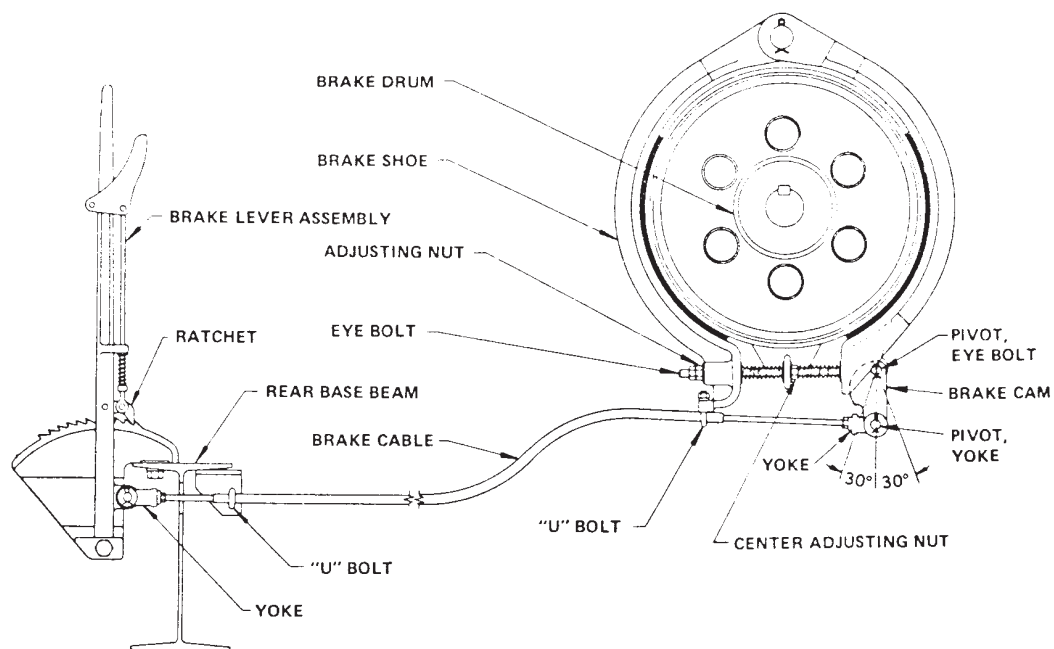

Figure 52
Some smaller and older units in the field may have the shoe type brake (see Figure 52). Before adjusting the brake, refer to Section 1.3 of this manual for proper safety precautions.
- (1) Stop the unit with the long end of the crank in the 6 o'clock position. Lockout/tagout all energy sources. Clamp the polished rod at the stuffing box.
- (2) Position the brake lever in its forward (or disengaged) position.
- (3) Adjust the position of both brake shoes by moving both adjusting nuts until both linings just clear the drum.
- (4) When the brake is disengaged, the pivot yoke of the cam should be at about a 30 degree angle to the right (see Figure 52). Simultaneously, the brake lever would be "full off", to the right of vertical.
- (5) When the brake is fully engaged, the lower end of the cam would be vertical or up to a 30 degree angle to the left (see Figure 52). Simultaneously, the brake lever has the ratchet engaged and several notches still "available" for engagement.
- (6) To achieve the proper engaged and disengaged positions of the cam and brake lever, either or both yokes can be adjusted in or out on the ends of the brake cable.
- (7) Be certain the rod end does not bottom out on the cable cover when engaging or disengaging the brake. When the yoke positions are established, tighten the jam nuts against the yokes.
- (8) Make sure the brake drum key is tight.
- (9) Remove the polished rod clamp at the stuffing box before attempting to restart the unit.